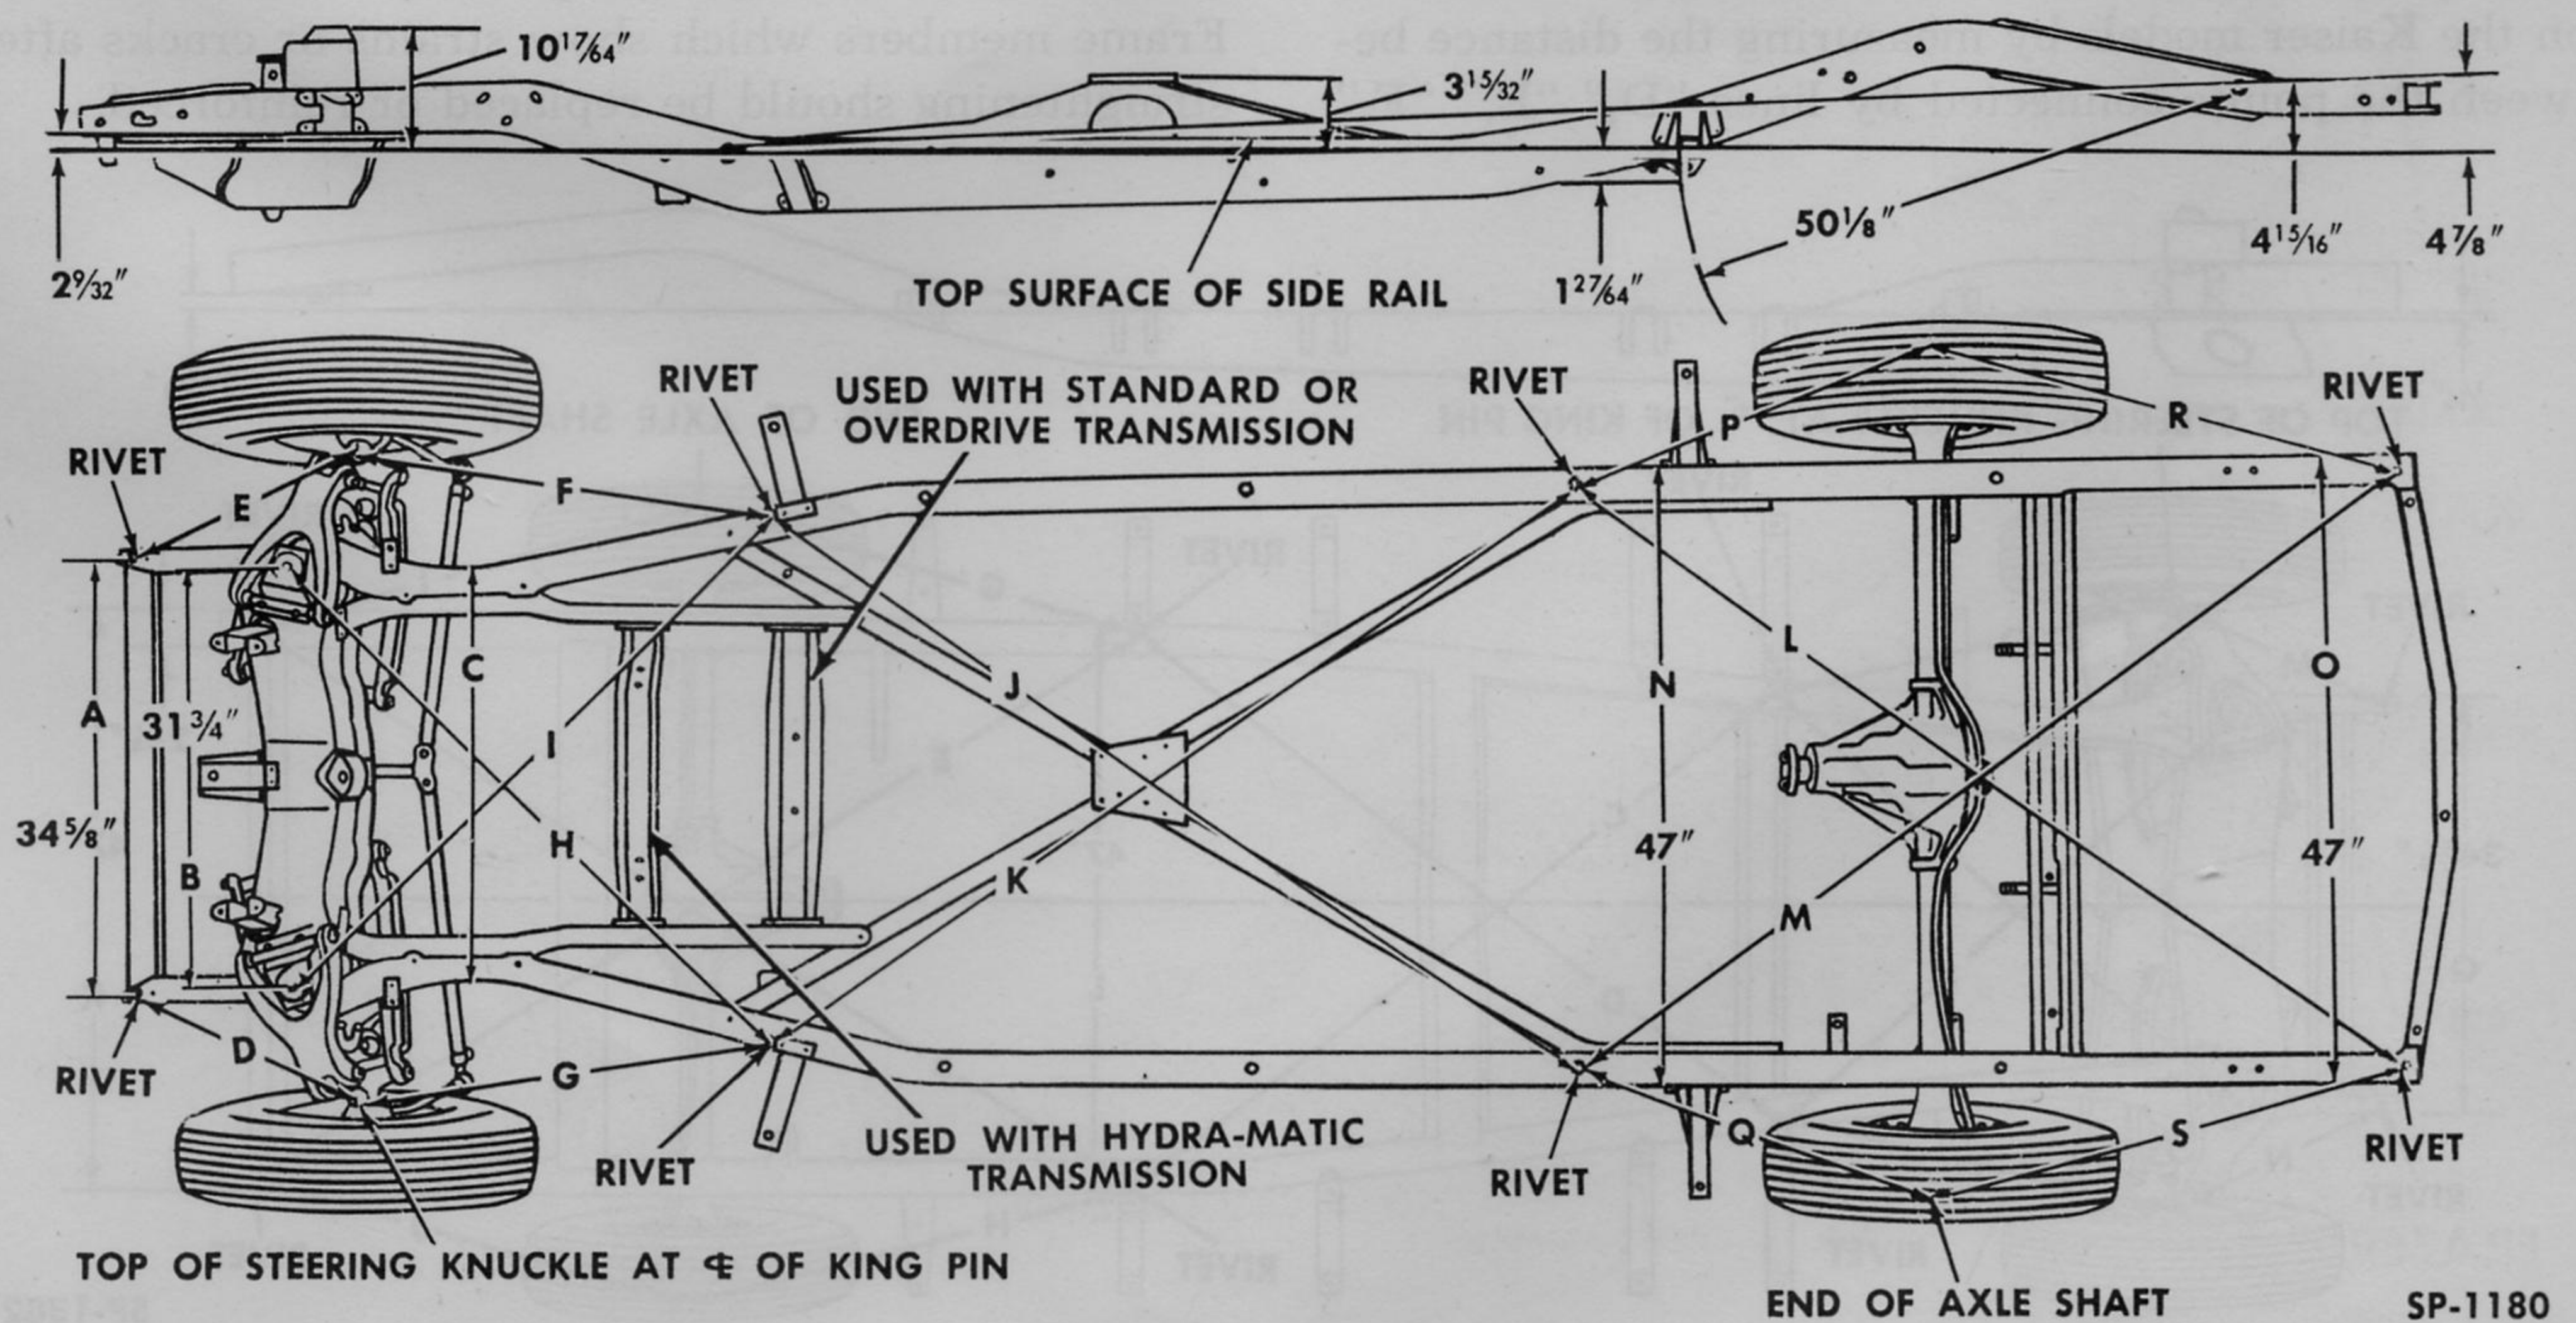

Fig. 324—Typical Frame, Front Suspension and Rear Axle Alignment Diagram—Kaiser
Vehicles which have been in a collision, upset, or in an accident of any kind which might result in a twisted or sprung frame should be fully checked for proper frame alignment as well as for alignment of the front suspension and the rear axle. Various diagonal measurements that may be taken to check frame and wheel alignment or squareness are shown in Figs. 324 and 325.
a. LAY OUT DIAGONAL LINES AND A CENTER LINE. Connect the points located on the floor by diagonal lines shown in Figs. 324 and 325 using a chalk line. Then, still using the chalk line, lay out a center line which, if the frame is in alignment, will fall on the intersection of all intersecting pairs of diagonals and the center points of the frame width
1. Kaiser (Fig. 324). Measure the distance between the points marked on the floor that are connected by the diagonal lines "H," "I," "J," "K," etc. Intersecting diagonals, such as "H" and "I" should measure the same within $\frac{1}{4}$ inch. If distance between the points connected by any one diagonal line as "H" varies more than $\frac{1}{4}$ inch from the distance between the points connected by the intersecting diagonal line "I" the frame must be straightened to correct the unequal diagonals. Diagonal lines should also intersect within $\frac{1}{4}$ inch of the center line of the floor layout. Other pairs of intersecting lines should
The dimensions indicated by "A" and "B" are not comparable to other lines. However, the dimensions taken from the vehicle should check within $\frac{1}{4}$ inch of those shown in Fig. 324.
c. CHECK FRAME SIDE RAILS. A line in a horizontal plane parallel to and $\frac{1}{2}$ inch below the top edge of the frame side rail and $3\frac{1}{2}$ inches below the top edge of the frame side rail and $3\frac{1}{2}$ inches below the top surface of the plate in the center of the X-member, in the Kaiser models as shown in Fig. 324, should be parallel to and $2\frac{9}{32}$ inches below the bottom of the forward end of the side rail and $4\frac{7}{8}$ inches below the top of the rear end of the side rail.
1. Kaiser (Fig. 324). Check for these conditions on the Kaiser models by measuring the distance between the points connected by lines "D," "E," "F,"